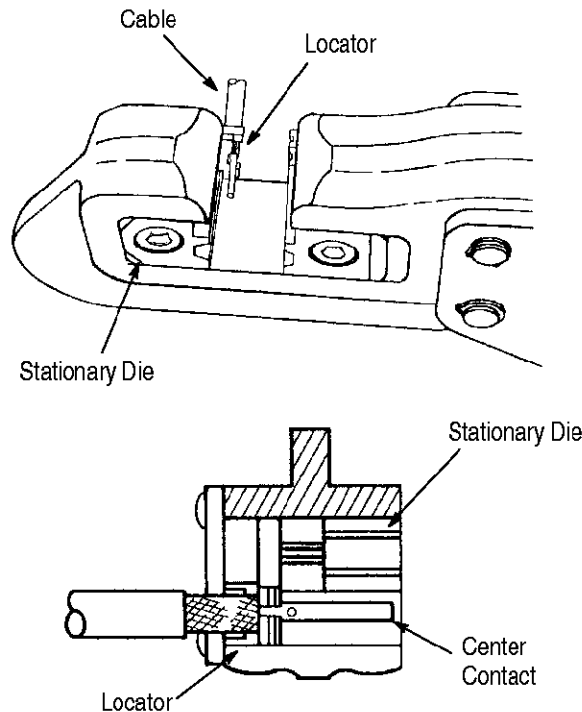

Figure 4
6. Open the dies and locate the center contact in the smaller crimping section of the stationary die so that the center contact rests in the die and the bushing is butted against the center contact. Refer to Figure 4.